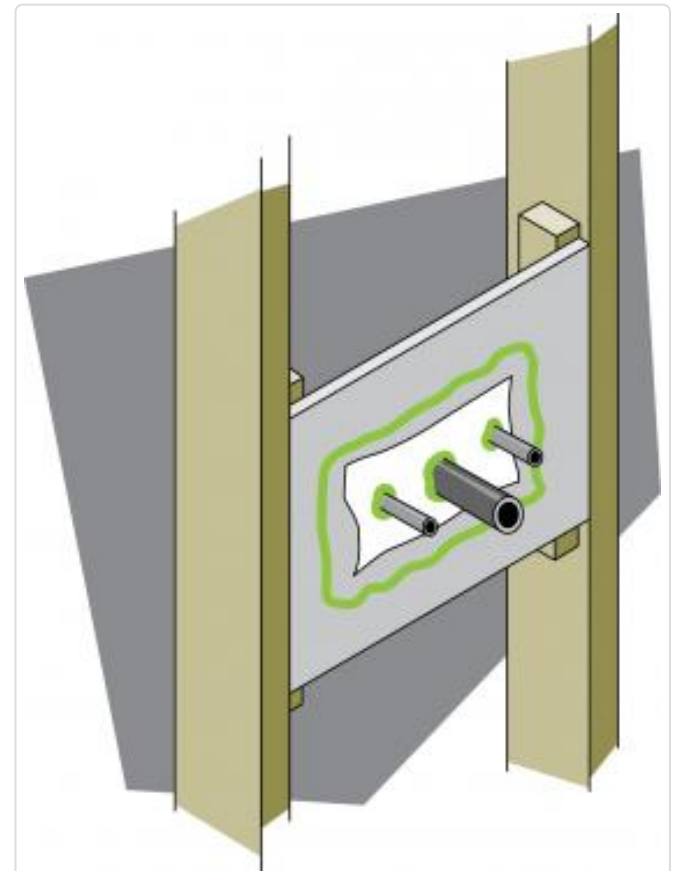

Figure 6-16 Sealed plumbing penetrations
- Frame airtight boxes for plumbing, water and drain line penetrations with gasket on the face of the box and caulk the pipe penetrations (see Figure 3-6 and Figure 6-16).
- Do not run wiring or plumbing from exterior walls into interior walls unless all holes are caulked (see Figure 6-16).